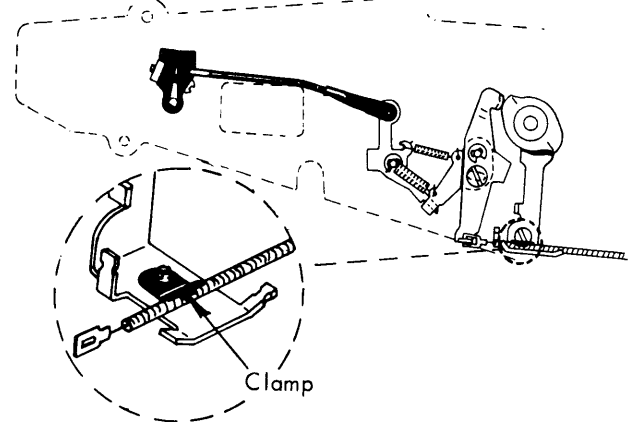

FIGURE 87. Keyboard Cable Clamp
- e. **Keyboard Cable Clamp** - Loosen the clamp screw (Fig. 87) and move the cable sheath forward or back under the clamp to satisfy the following condition: